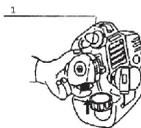

Fig. 8
- Press the Primer Bulb several times to ensure fuel is passing through the carburetor. This will aid in the unit to start easily (Fig. 8).